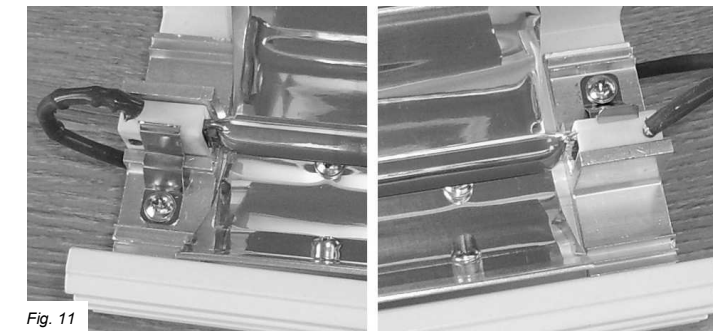

Fig. 11
11. Take your new lamp and refit by ensuring the leads are facing upwards and away from the lamp holders. The lamp can be clipped in by pulling the tabs back (Fig. 11). Please read the note about handling the lamp on page 7 before continuing.